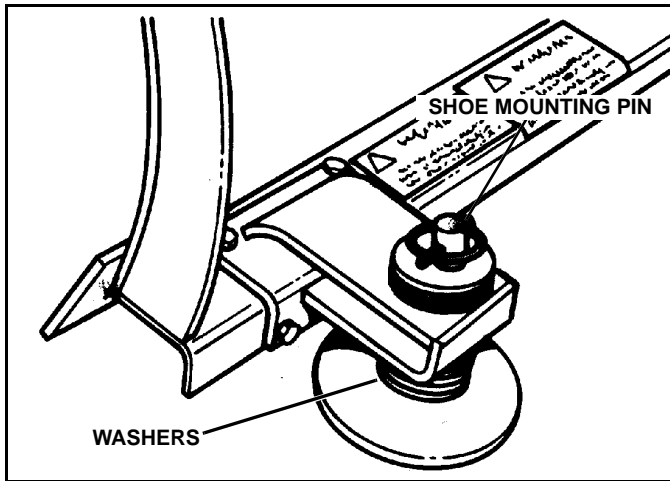

Figure 3-1
5. Adjust shoe assemblies by removing Shoe Mounting Pin and adding or subtracting washers on the top or bottom of the shoe mounting bracket. (See Figure 3-1).